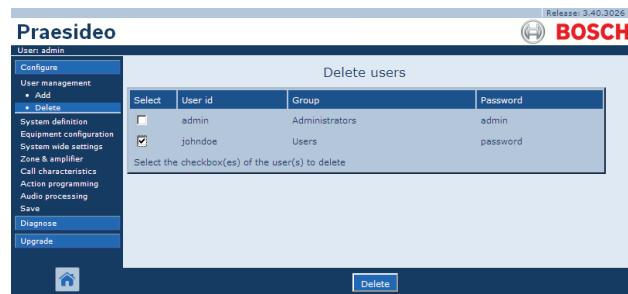

figure 41.6: Delete user, step 2.
- 2 Check the box in front of the account that has to be deleted (see figure 41.6).